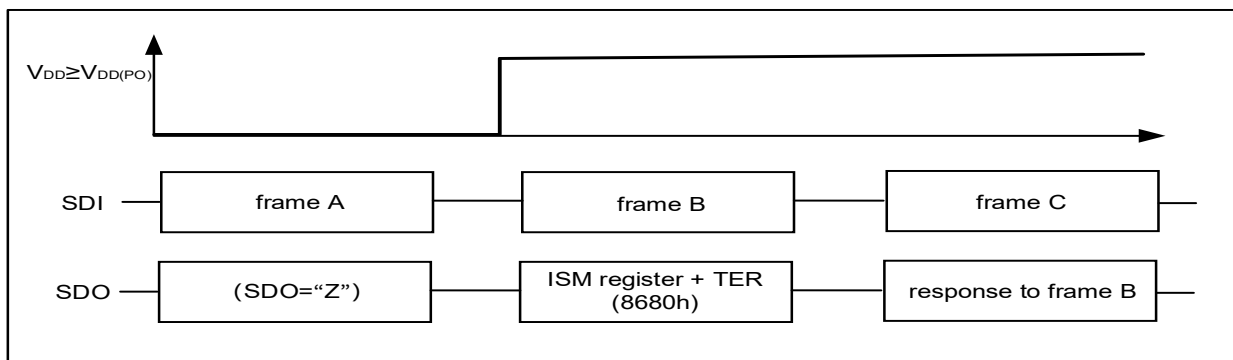

Figure 10.9 NSD56602 response after coming out of Power-On reset at V_{DD}
- When NSD56602 logic supply comes out of Power-On reset condition or after a Software Reset, as shown in **Figure 10.9**